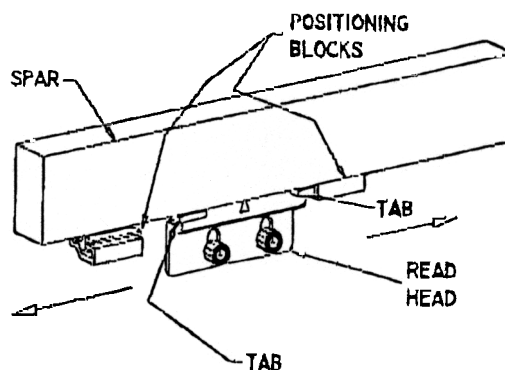

Figure 13. Removal of Positioning Blocks
8. Remove the positioning blocks by sliding them away from the reader head tabs (in the directions indicated by the arrows) and pulling them out of the end of the spar. See Figure 13. If the reader head is in the correct mounting location, the positioning blocks should slide off and on the reader head tabs. If they will not slide on and off readerhead tabs, check the detector head alignment.